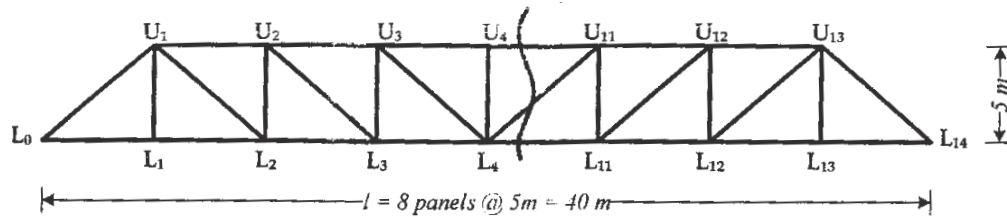

Fig. 1
**Q5)** Design the member (U-3, U-4), (U-3,L-3) for the broad gauge railway steel truss bridge shown in Fig.1. The details are as follows. **[18]**